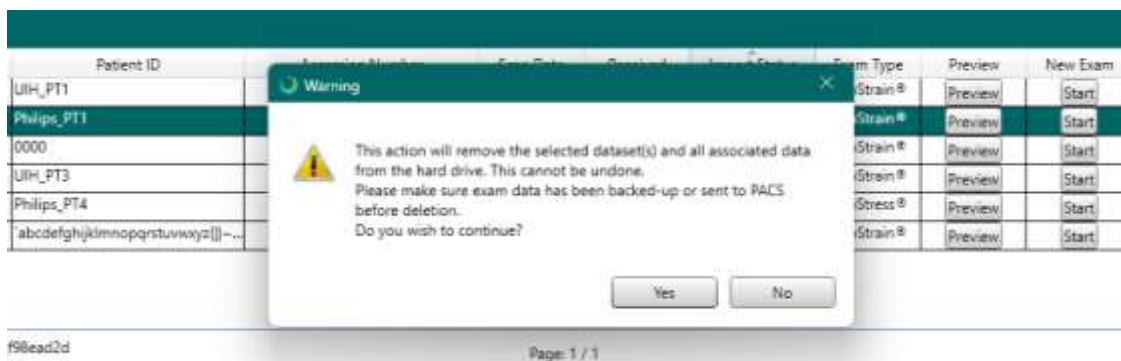

Figure 10-14: Warning message shown when attempting to delete images from the MyoWorklist
- K. **Delete** – This button will remove the dataset assigned to it from the workstation. A warning message will display if images being deleted do not show the **Archived Import Status** (Figure 10-14). Multiple datasets can be deleted at once by holding down the Shift key to highlight multiple cases, then clicking the X button.